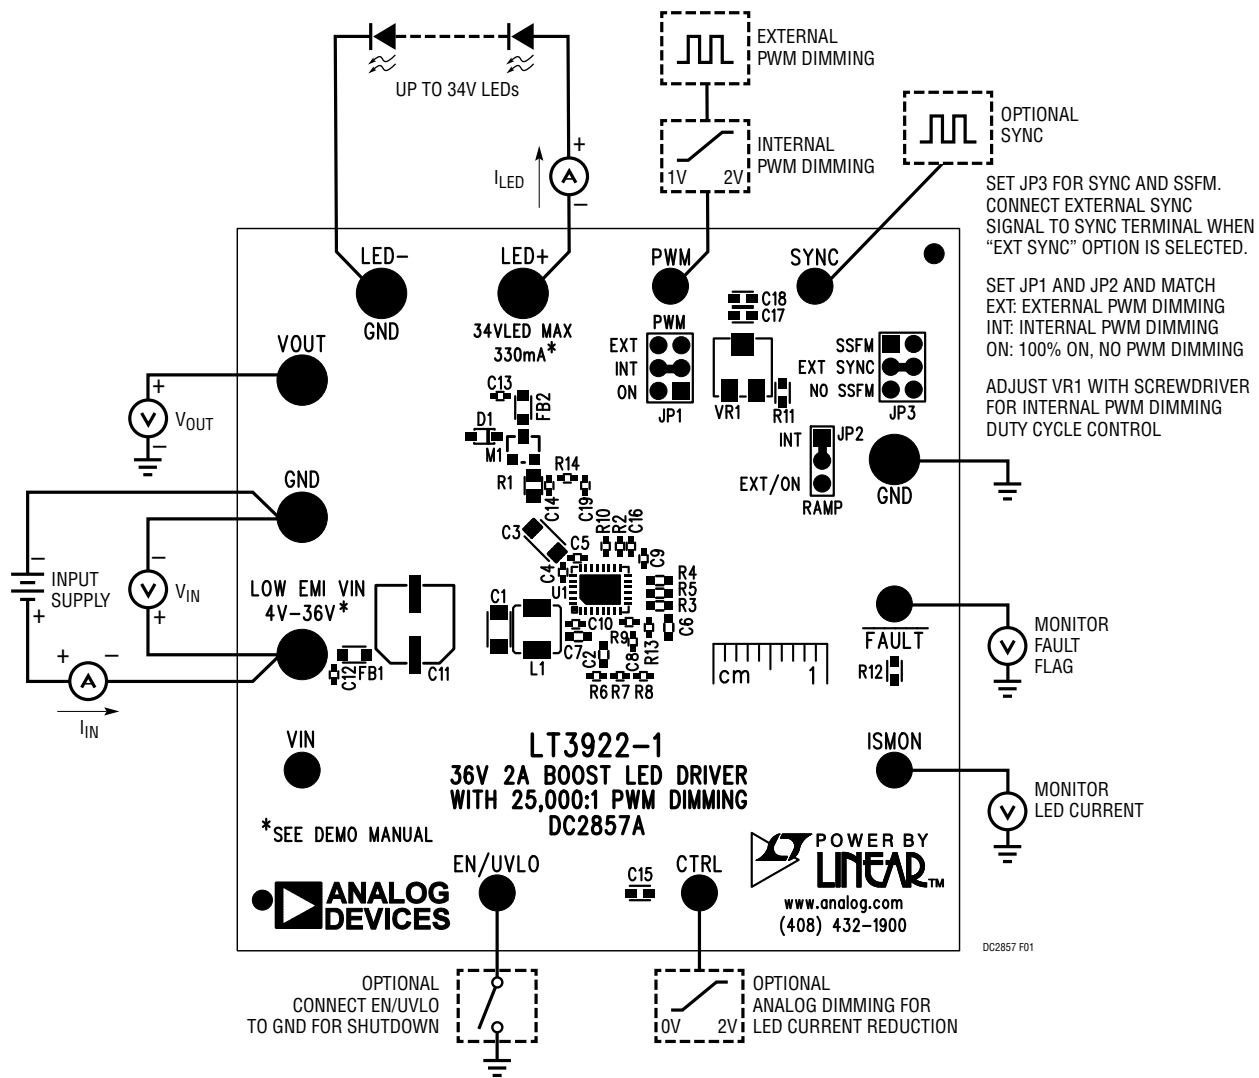

Figure 1. Test Procedure Setup Drawing for DC2857A
- With power off, connect a string of LEDs that will run with forward voltage less than or equal to 34V (at 330mA) to the LED+ and LED- terminals on the PCB as shown in Figure 1.